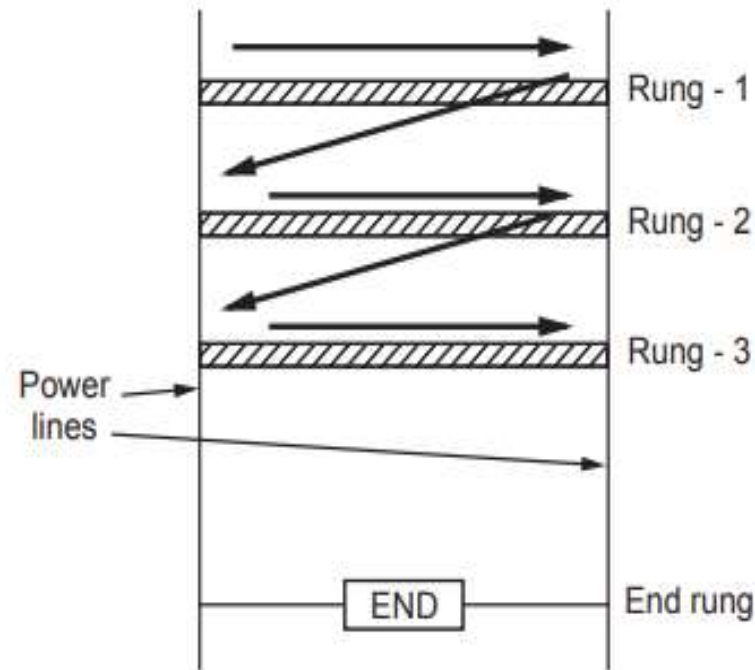

Fig. 4.13.1
3. The ladder diagram must be read from left-to-right and top-to-bottom. Fig. 4.13.1